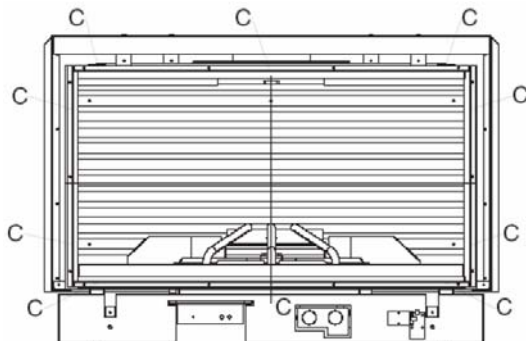

Fig. 5
- 1) Open the ashtray door by pushing on the right side for the Silence/Feeling and on the left side for the Whisper. Remove the frame by loosening the screws A behind the door (see fig. 5). Lift and pull forward when you take it away